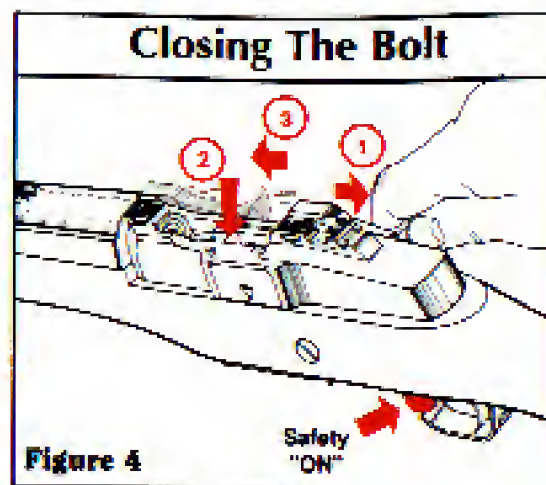

Figure 4
2. With an empty magazine in place, draw the slide handle fully to the rear and hold it there. Then, while holding the slide handle, depress the magazine follower slightly with the thumb, remove the thumb, and then allow the slide to go forward. (See Figure 4)